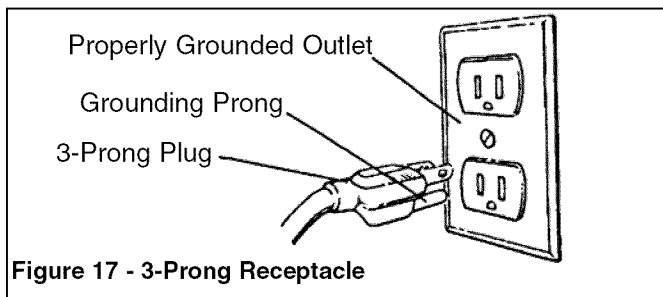

Figure 17 - 3-Prong Receptacle
This tool is equipped with an approved 3-conductor cord rated at 150V and a three prong grounding type plug (see Figure 17) for your protection against shock hazards.
- Grounding plug should be plugged directly into a properly installed and grounded 3-prong grounding-type receptacle, as shown (Figure 17).